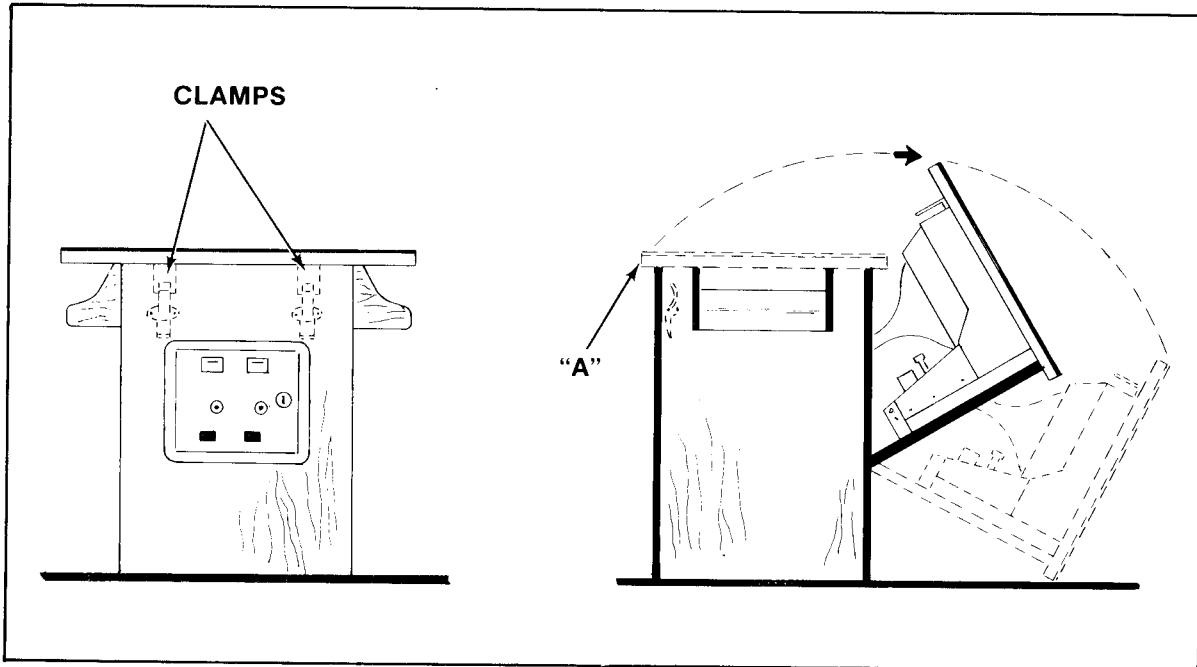

FIGURE 18
- ii. Open the coin box door and release the two latches indicated in Figure 18.
- iii. Grasp the table top at "A" and open it as indicated in Figure 18.
- b. Open the coin box door and release the two latches indicated in Figure 18.